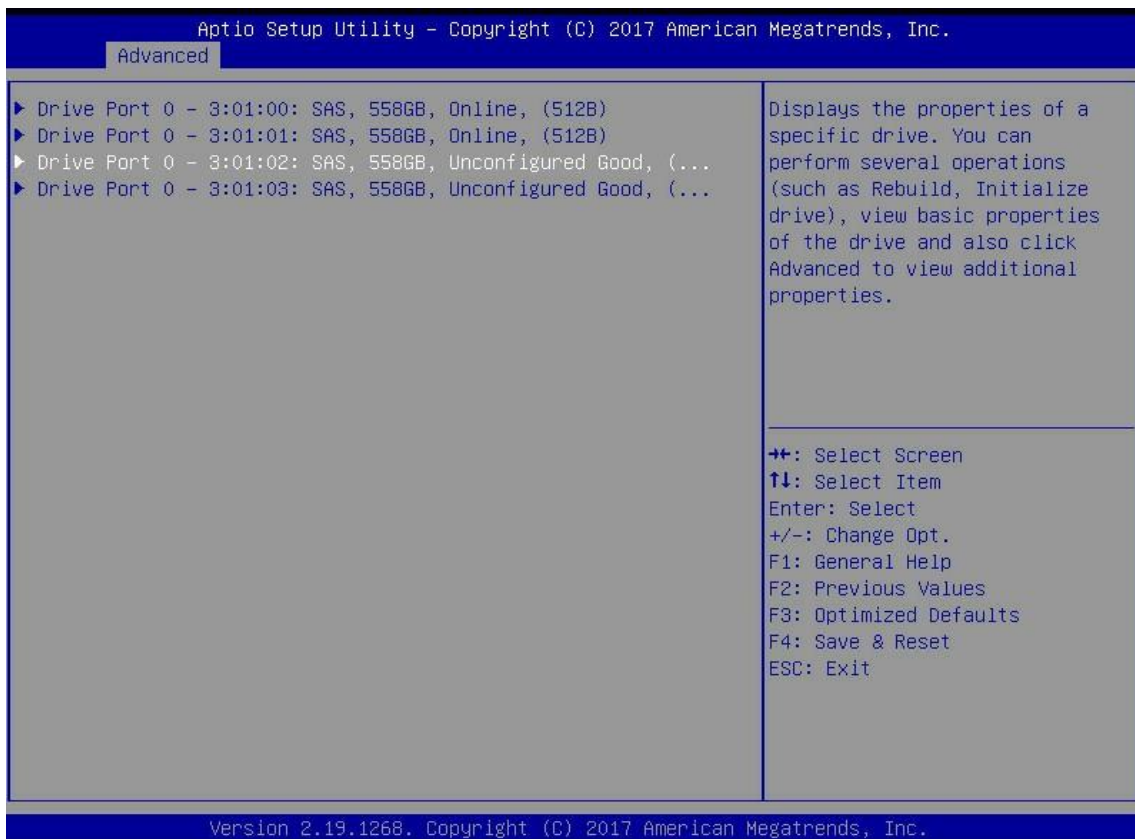

Figure 6-54
b) Enter the interface shown in figure 6-54, select the disk to be erased, and press enter.